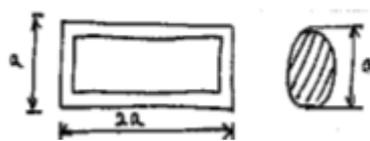

Fig. Q8(b)
- b A thin walled box section having dimensions $2a \times a \times t$ is to be compared with a solid circular section of diameter as shown in Fig. Q8(b). Determine the thickness t so that the two sections have (08 Marks)